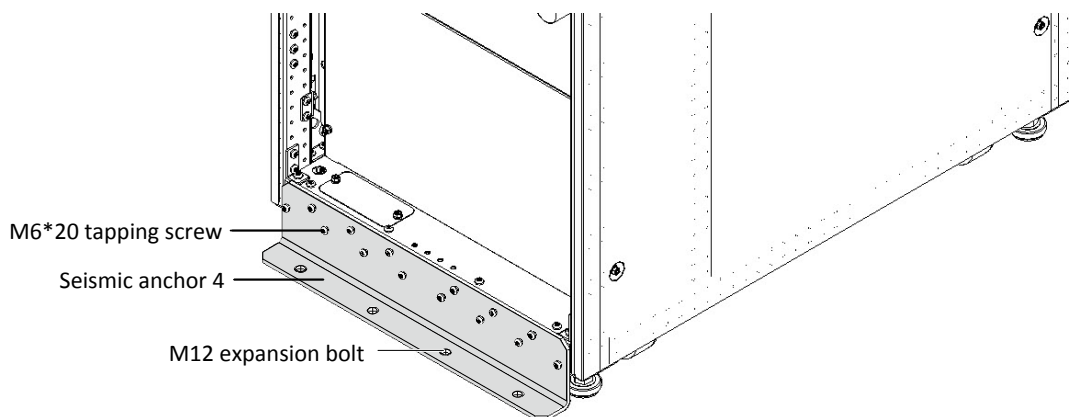

Figure 8-14 Installing seismic anchor 4
4. Use M6 × 20 tapping screws (14 pcs) to fix the seismic anchor 4 located at bottom of the cabinet front, and use four M12 expansion bolts to fix seismic anchor 4 on the ground, as shown in Figure 8-14.